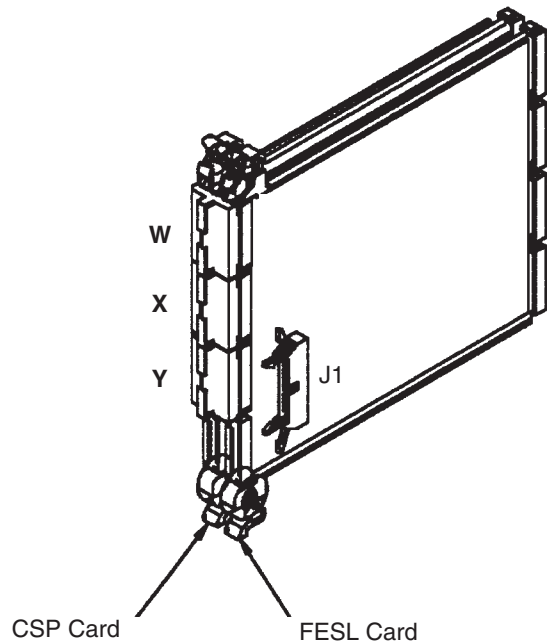

Figure 4-48. CSP and FESL Cards
5. Referring to Figure 4-48 on page 4-73, exchange the CSP card as follows:
5. Referring to Figure 4-48, exchange the FESL card as follows: